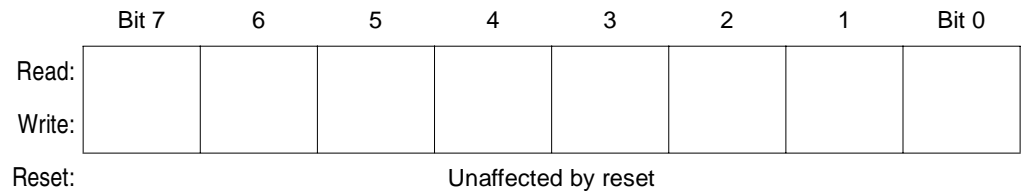

Figure 3-3. Index Register (X)
In the indexed addressing modes, the CPU uses the byte in the index register (X) to determine the conditional address of the operand (**Figure 3-3**). For more information on indexed addressing, see **12.3.5 Indexed, No Offset**, **12.3.6 Indexed, 8-Bit Offset**, and **12.3.7 Indexed, 16-Bit Offset**.